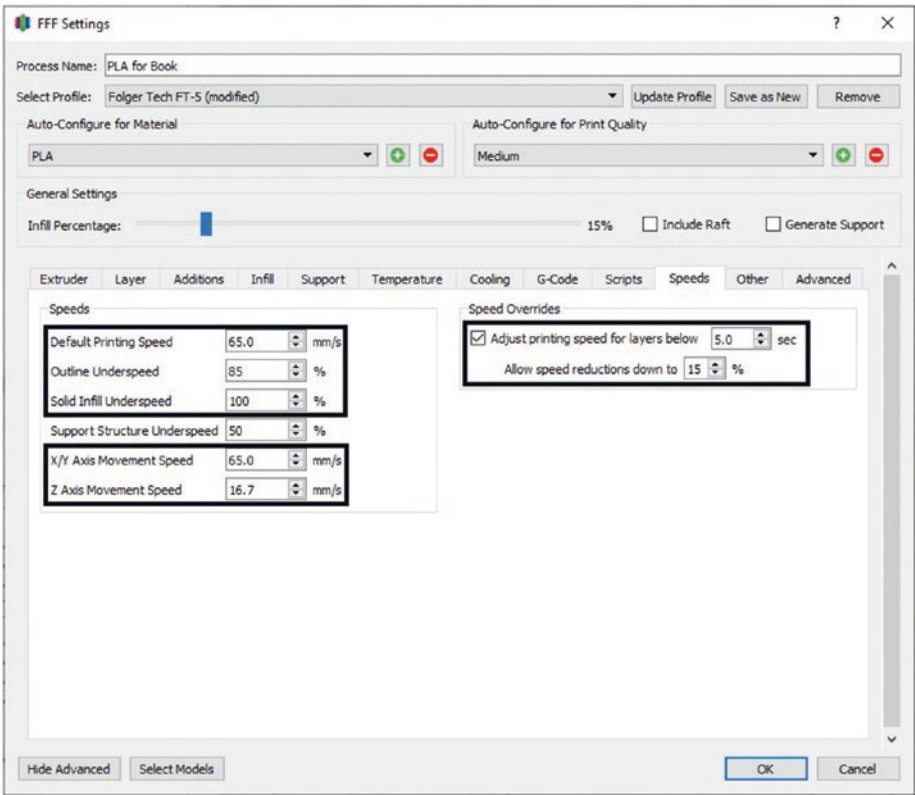

Figure 4-28. Speed tab
10. Tab 10: Speeds (see Figure 4-28)